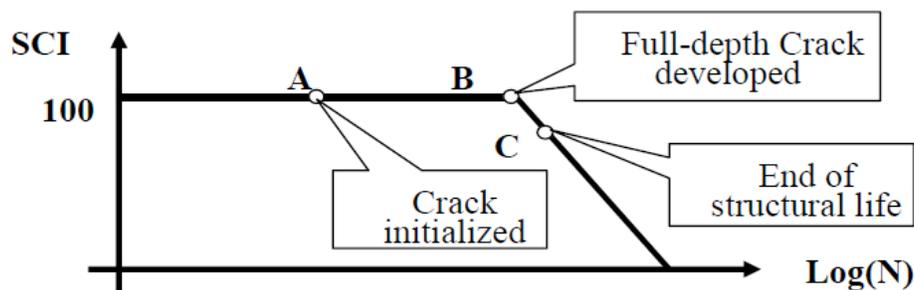

Figure 1. Rigid pavement failure model in FAARFIELD.
The FAA rigid pavement design procedure uses a failure model in which SCI is the measure of performance. In this model, the SCI follows an approximately linear deterioration function of the logarithm of coverages (N), as shown in Figure 1. The number of coverages to the first observed thorough crack, i.e., at which SCI just begins to diminish from its initial level of 100, is defined as Point B. An SCI of 80 (Point C in Fig. 1) is the FAA definition of structural failure of a rigid pavement. However, the above relationship between SCI and coverages does not reflect the complex failure mechanism of concrete pavements. Specifically, there is a lack of an adequate model of fatigue damage accumulation in the major stage of rigid pavement life before the appearance of significant cracks (i.e., Point A in Fig. 1).